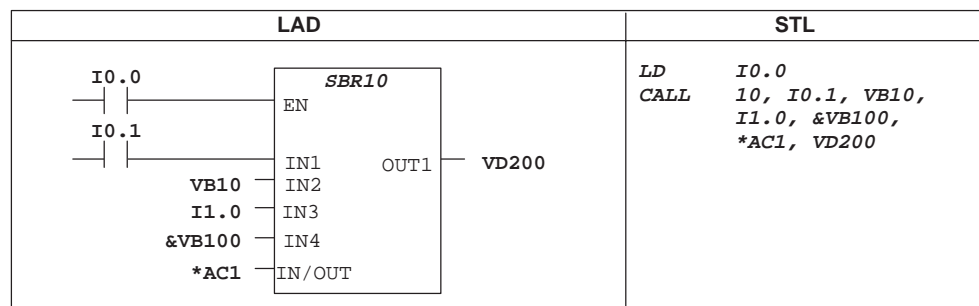

Figure 9-54 Subroutine Call in LAD and STL
- **Power Flow:** Boolean power flow is allowed only for bit (Boolean) inputs. This declaration tells STEP 7-Micro/WIN 32 that this input parameter is the result of power flow based on a combination of bit logic instructions. Boolean power flow inputs must appear first in the local variable table before any other type input. Only input parameters are allowed to be used this way. The enable input (EN) and the IN1 inputs in Figure 9-54 use Boolean logic.
- **Boolean -** This data type is used for single bit inputs and outputs. IN2 in Figure 9-54 is a Boolean input.
Address parameters such as IN4 in Figure 9-54 (&VB100) are passed into a subroutine as a Dword (unsigned double word) value. The type of a constant parameter must be specified for the parameter in the calling routine with a constant descriptor in front of the constant value. For example, to pass an unsigned double word constant with a value of 12,345 as a parameter, the constant parameter must be specified as DW#12345. If the constant descriptor is omitted from parameter, the constant may be assumed to be a different type.